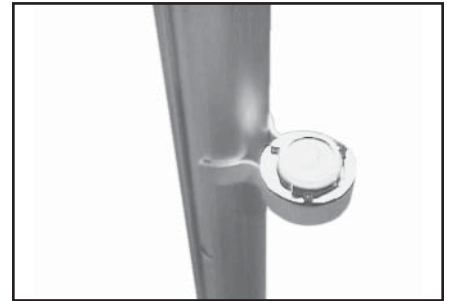

Figure 15
- Take one post, one top plate and the clip-on level out of the box. Turn the post upright. Place the clip-on level onto the post at approximately waist height (Figure 15).